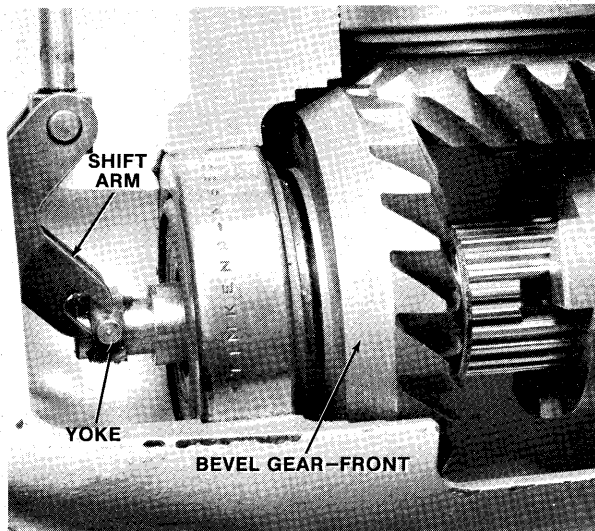

Figure 22—Installing Propeller Shaft Assembly
- E. Carefully install propeller shaft assembly in gear housing while being sure that shift rod—lower is up as far as possible and pins on each side of yoke are horizontal. Push propeller shaft assembly in until pins of yoke are aligned in slots of shift arm assembly as shown in figure 22.